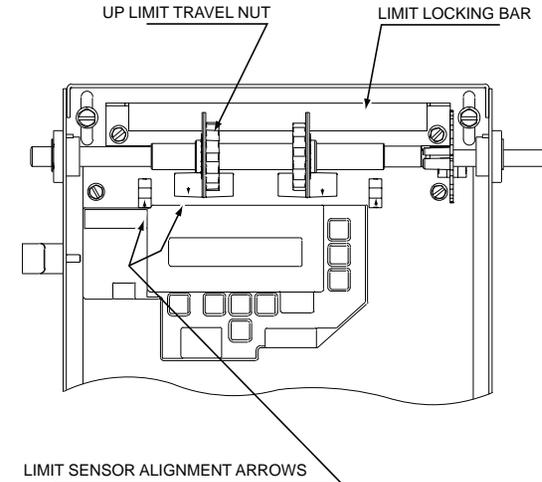

Figure 6
5) Release the LIMIT LOCKING BAR and make sure bar seats completely into both Travel Nuts. **Fig. 6.**